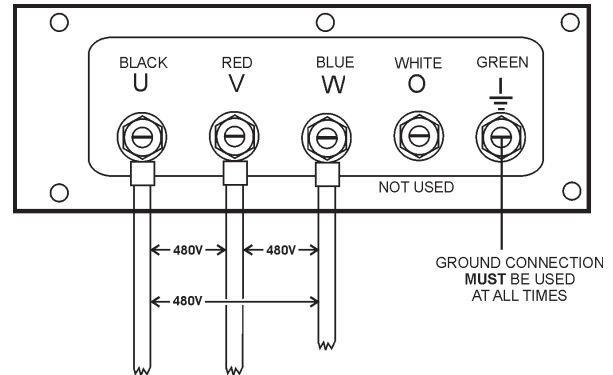

Figure 29. UWVO Output Terminal Lugs
2. Connect the load wires to the as shown in Figure 29.